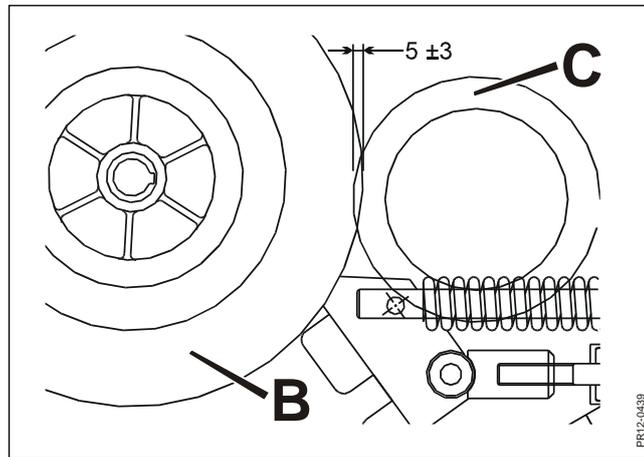

Fig. 4-31
**Fig. 4-31** During reverse, the overlap between the steel friction disc **B** and the rubber disc **C** is  $5 \pm 3$  mm. It is not necessary to make any adjustment in case of wear because the cylinder always has the constant pressure which is determined by the pressure relief valve.